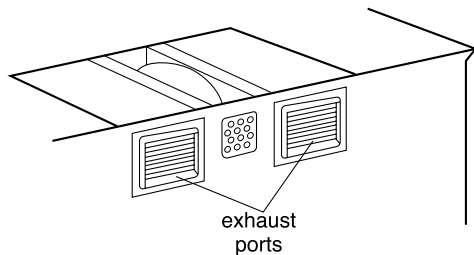

Figure 17
6. Place blower unit back into cabinet. Check that the exhaust ports face towards the rear of the cabinet. See Figure 17.